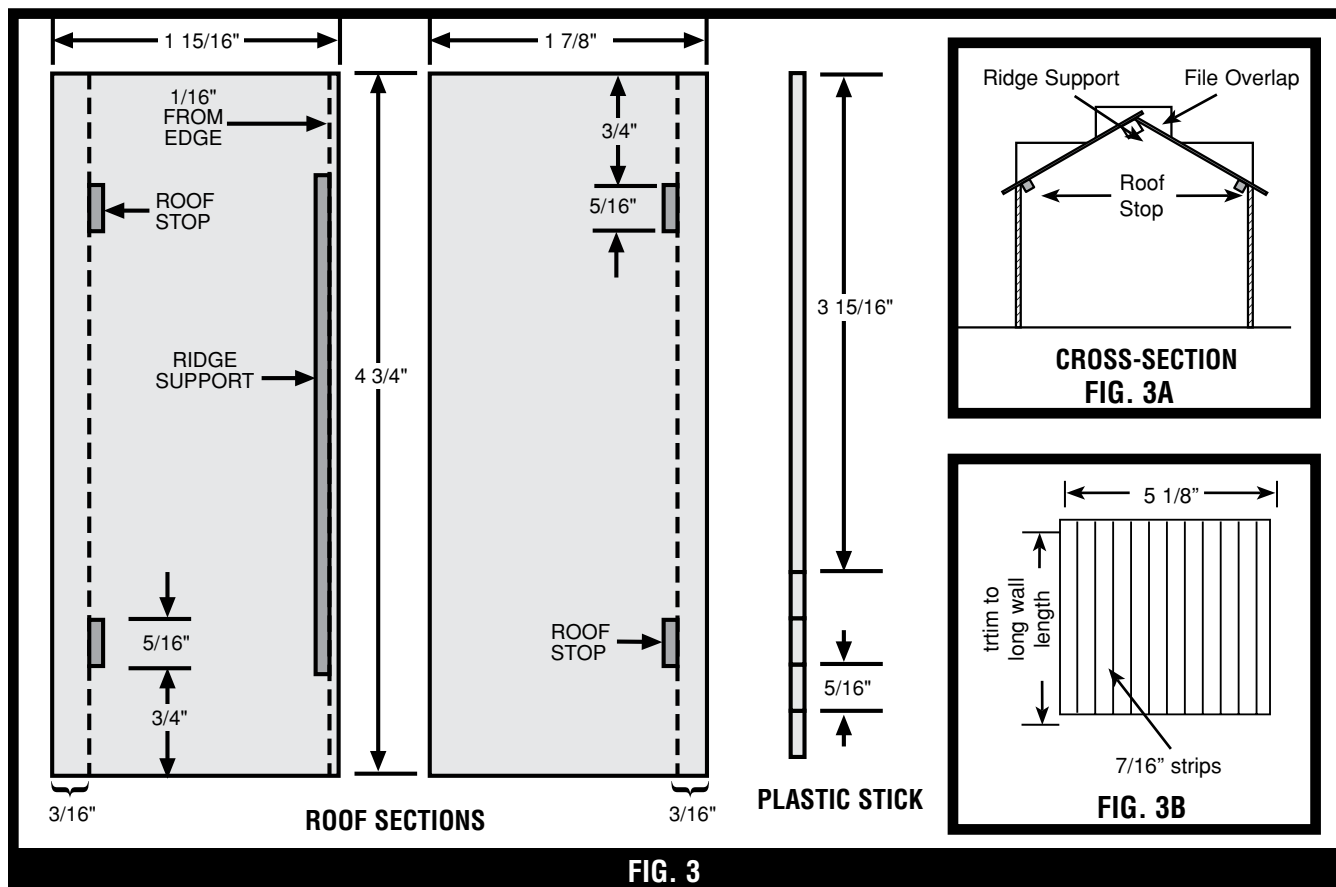

FIG. 3
1. Cut white plastic square to form two roof sections to the dimensions indicated in Fig. 3.
2. To form ridge supports and roof stops, cut the white plastic stick as shown in Fig. 3.
3. Glue ridge support and roof stops to underside of roof sections as shown in Fig. 3.
Using the included Roof Support Material, cut roof supports. Supports should be shorter than the width of walls. Glue Supports so they are even with the Supports on other walls. If the walls are different heights, be sure the Roof sets below the top of the lowest wall. Generally, the Roof Supports should be glued about 1/8" below the top of the lowest wall. Glue the Roof to the top of Roof Supports. (Fig. 3)